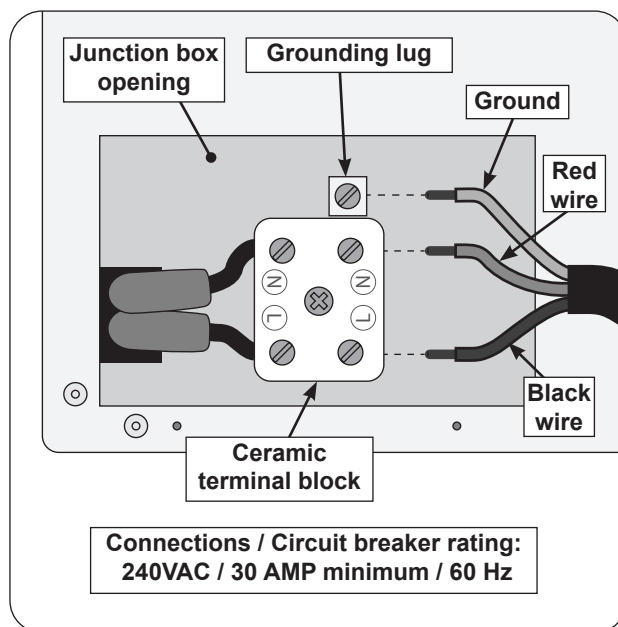

Fig. 23-2 Wire connection diagram
- Connect the wires to the ceramic terminal block. Reference the wiring information below and Fig. 23-2.